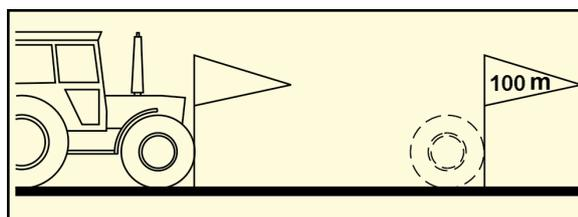

Fig. 33
- On the field, measure a calibration distance of exactly 100 m. Mark the start and end point of the calibration distance (Fig. 33).